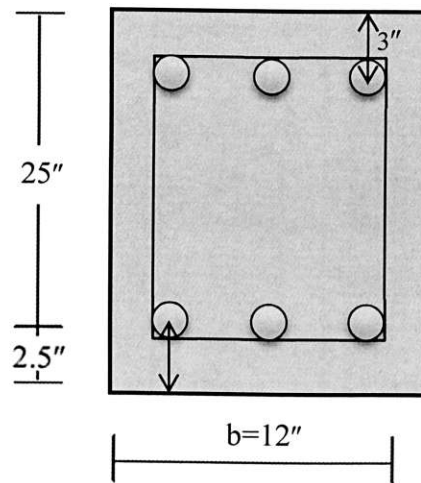

Figure: 6
11. For the column section shown in Figure 6, select reinforcing bars using Ultimate Strength Design (USD) method. Take $P_D = 250k$, $P_L = 120k$, $M_D = 90k\text{-ft}$, $M_L = 90 k\text{-ft}$. Assume section is compression controlled. (Use $f'_c = 4 \text{ ksi}$, $f_y = 60 \text{ ksi}$ and take $\phi = 0.7$ for tied column)